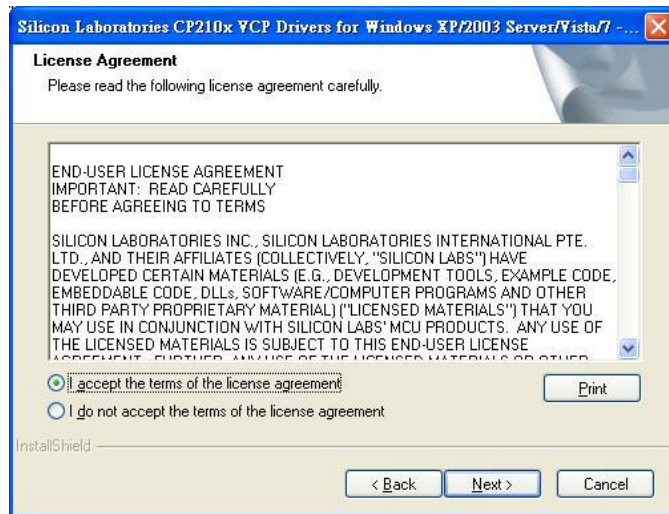

Figure 4-3: Driver License Agreement Screen
Step 4: The license agreement in **Figure 4-3** appears. Read the **License Agreement**. Check **I accept the terms of license agreement** and click **Next** to continue.